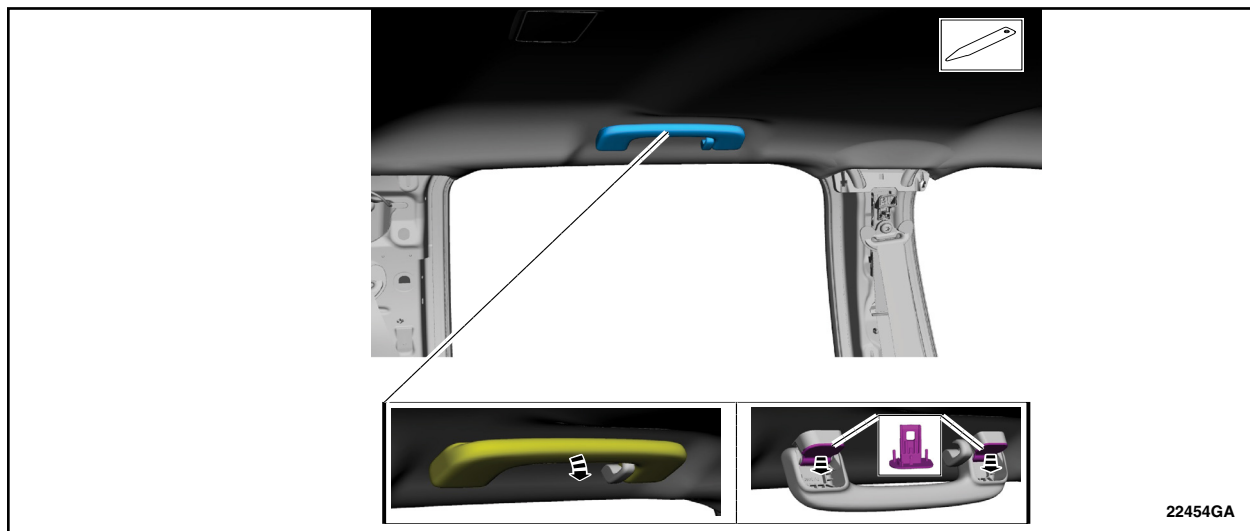

FIGURE 15
18. On both sides position the rear assist handle down, remove the rear assist handle retainers and remove the rear assist handle. See Figure 15.